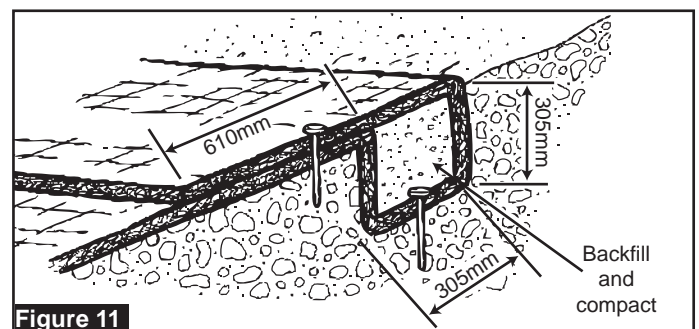

Figure 11
- Excavate terminal anchor trench 300 x 300 mm minimum across the channel at the upstream end of the project (see Figure 11). Deeper terminal anchor trench is needed in channels that have the potential for scour.
- Anchor, backfill and compact upstream end of mat in 300 x 300 mm minimum terminal anchor trench (see Figure 11). Unroll mat in downstream direction over compacted trench with a minimum 600 mm lap. Secure mat using ground anchoring devices. Seed and fill with soil for enhanced performance. Irrigate as necessary to establish/maintain vegetation. Do not over irrigate.